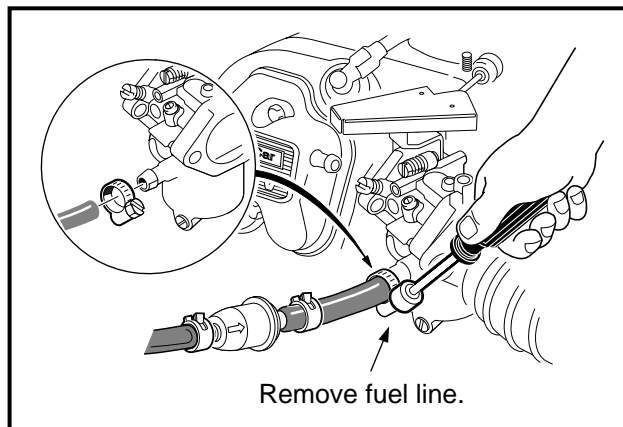

Figure 16-15 Fuel Line
- 3.4. Loosen the hose clamp and then disconnect the fuel line from the carburetor. To prevent spilling fuel, the disconnected end of the line can be pushed onto the impulse line fitting of the fuel pump (**Figure 16-15, Page 16-9**).